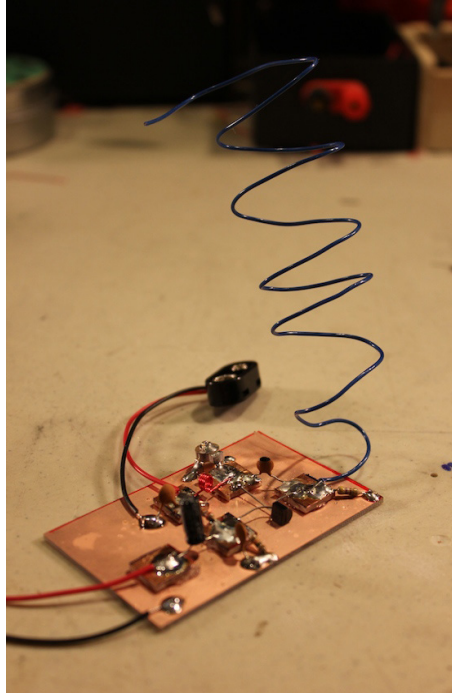

Figure 21
- Solder the wire to the bottom right square. (See figure 21)